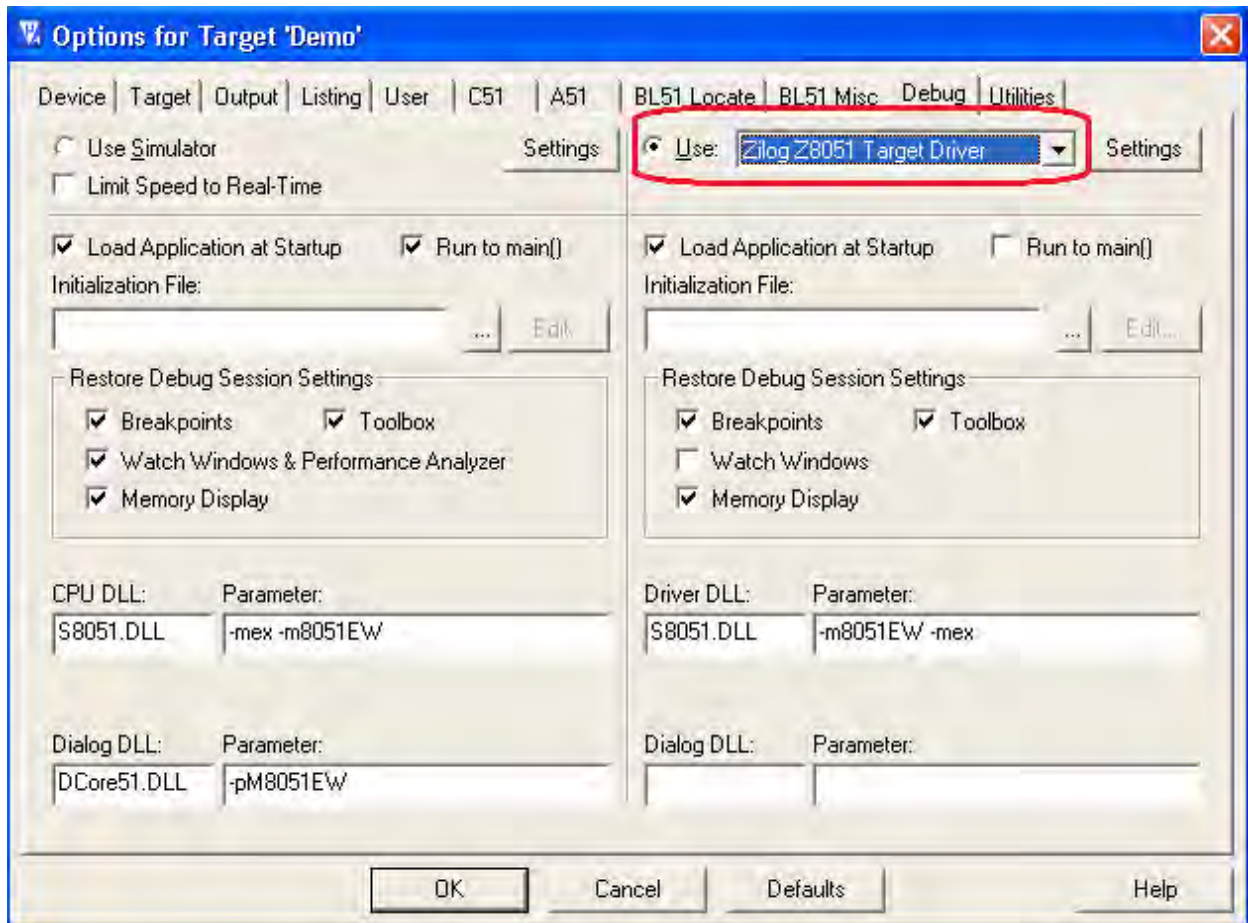

Figure 25. Selecting the Target Driver
6. After selecting the target, click the **Debug** tab and select the **Zilog Z8051 Target Driver** from the **Use:** drop-down menu, as highlighted in Figure 25.